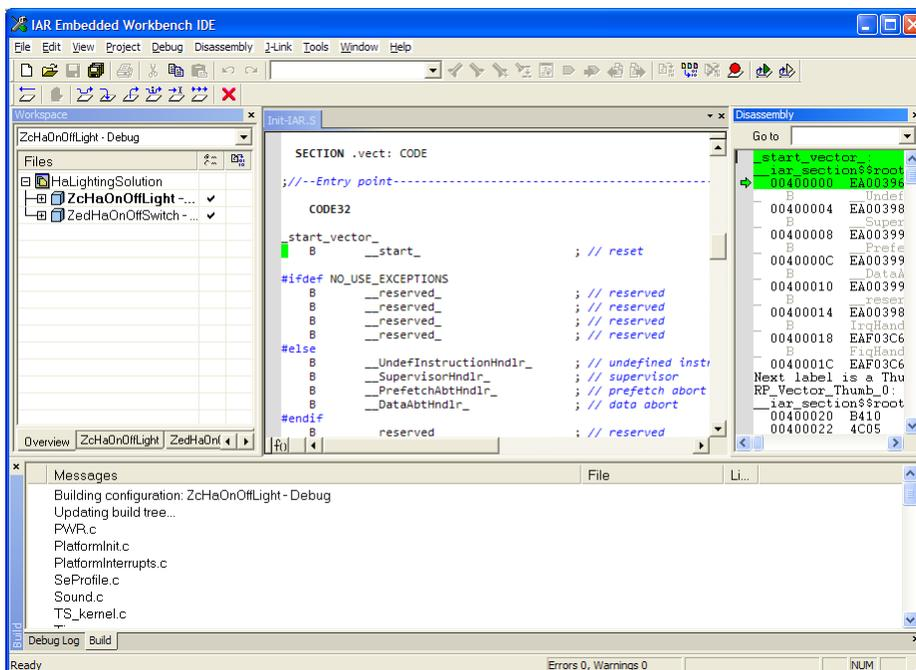

Figure 3-25. IAR EWB Debugging Window
5. Wait until the board’s FLASH memory is written. When this is complete, the IAR EWB debugging window appears as shown in Figure 3-25.